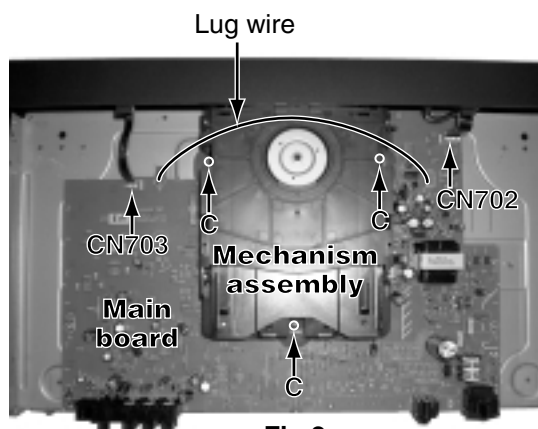

Fig.2
■ Removing the mechanism assembly (see Fig.2,3)